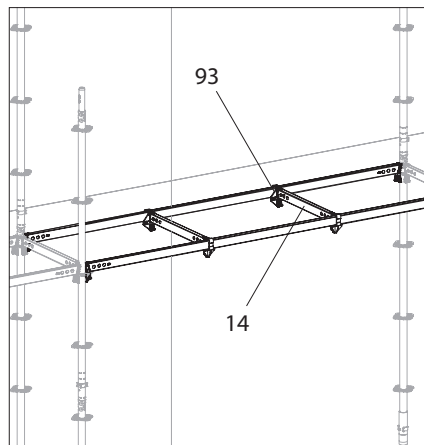

Fig. A8.04a
1. If necessary, install additional horizontal ledgers (14) with Ledger-to-Ledger Coupler UHA (93) in the system dimension. Do not secure the wedges yet. (Fig. A8.04a + A8.04c)